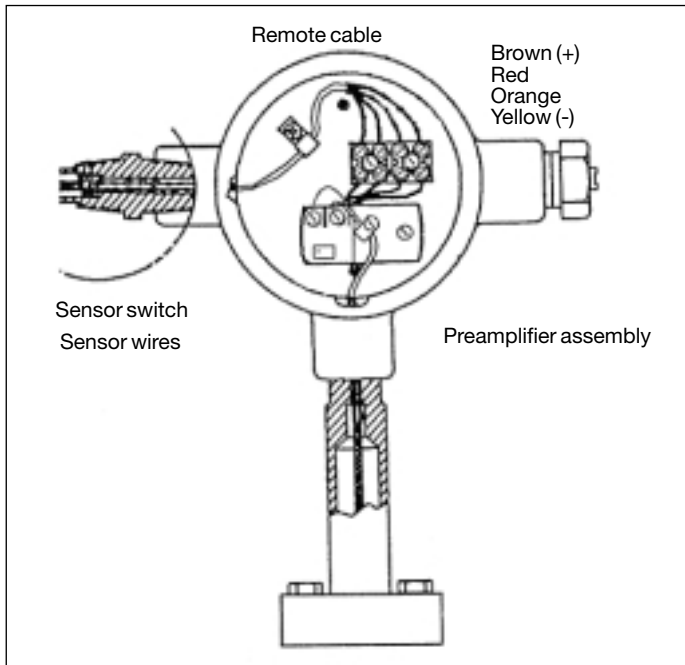

Figure 26. Pre-amplifier – Remote Mounted VFM 3100
- Before placing assembly into the junction box, connect the four (brown-red-orange-yellow) wires entering the junction box through a conduit opening, to the other side of the terminal block on the mounting plate (following the same sequence as the cable from the preamplifier). See Figure 26.